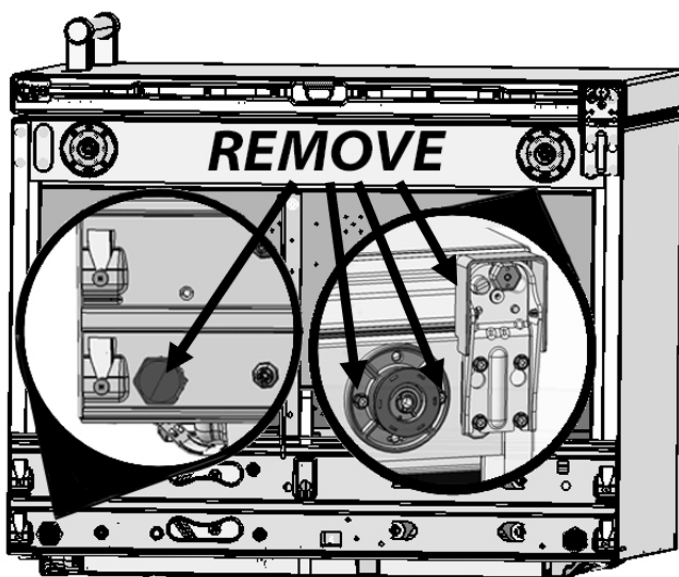

Figure 1
- b. Remove all four rear leg levelers by unscrewing counterclockwise (Figure 1, left detail).
- c. Remove all four front leg levelers by unscrewing the outer peg and two bolts on each front leveler with a 5/16" nut driver. Remove the hinge cover if installed (Figure 1, right detail).